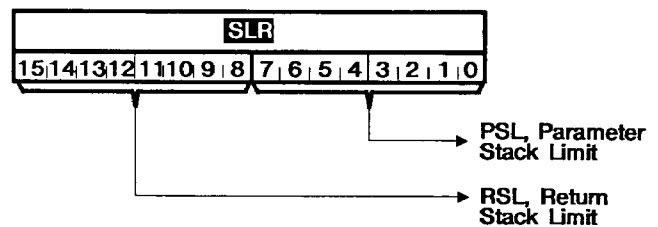

FIGURE 7. STACK LIMIT REGISTER ( **SLR** )
**SLR** (Write Only): The **Stack Limit Register** holds the upper limit values (0 to 255) for the depth of the Parameter Stack (bits 0-7) and the Return Stack (bits 8-15). These must be accessed together. See Figure 7.